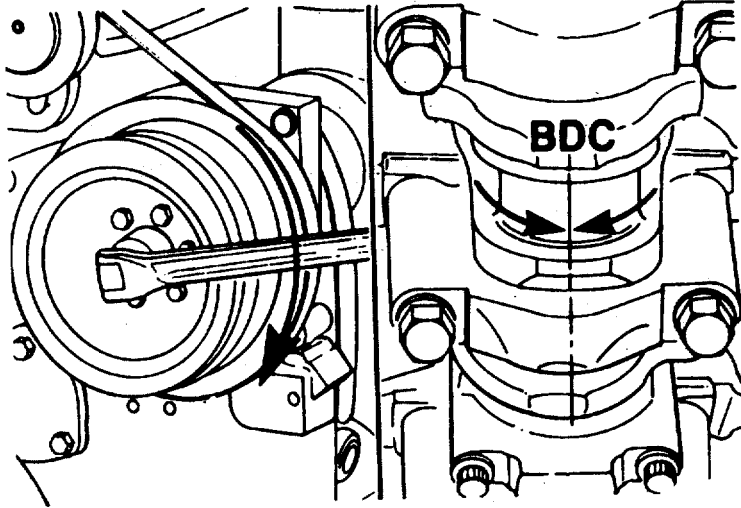

FIGURE 3-73. Rotating Crankshaft to Bottom Dead Center (BDC).
- a. Rotate the crankshaft to position two connecting rods at bottom dead center (BDC) (FIGURE 3-73) .